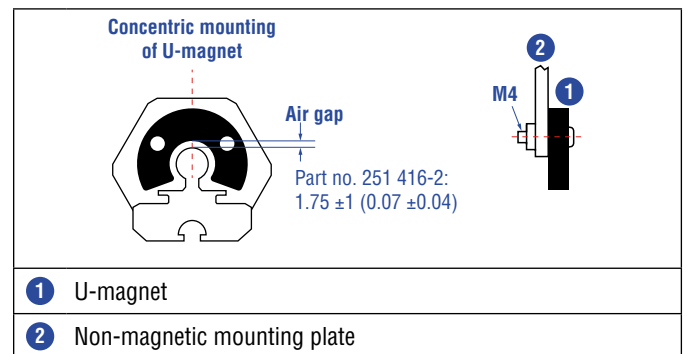
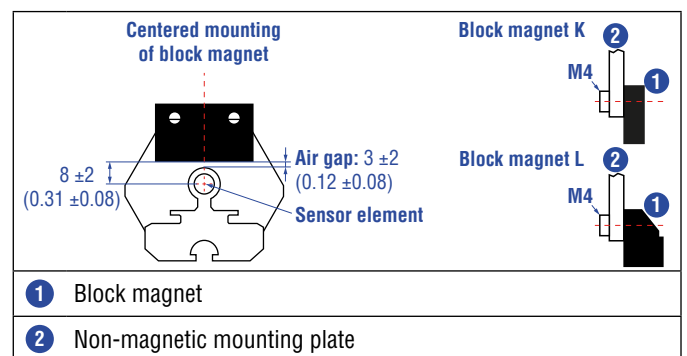

Fig. 70: Mounting of U-magnet (part no. 251 416-2)
Fig. 71: Mounting of block magnet K (part no. 251 298-2) and block magnet L (part no. 403 448)
- Mount block magnets centrically over the sensor rod or the sensor profile. The maximum permissible air gap must not be exceeded (Fig. 70/Fig. 71).